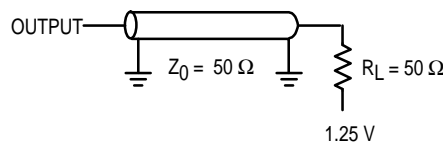

Figure 2. AC Test Load
Output Load See Figure 2 Unless Otherwise Noted
3. Tested per AC Test Load, Figure 2.